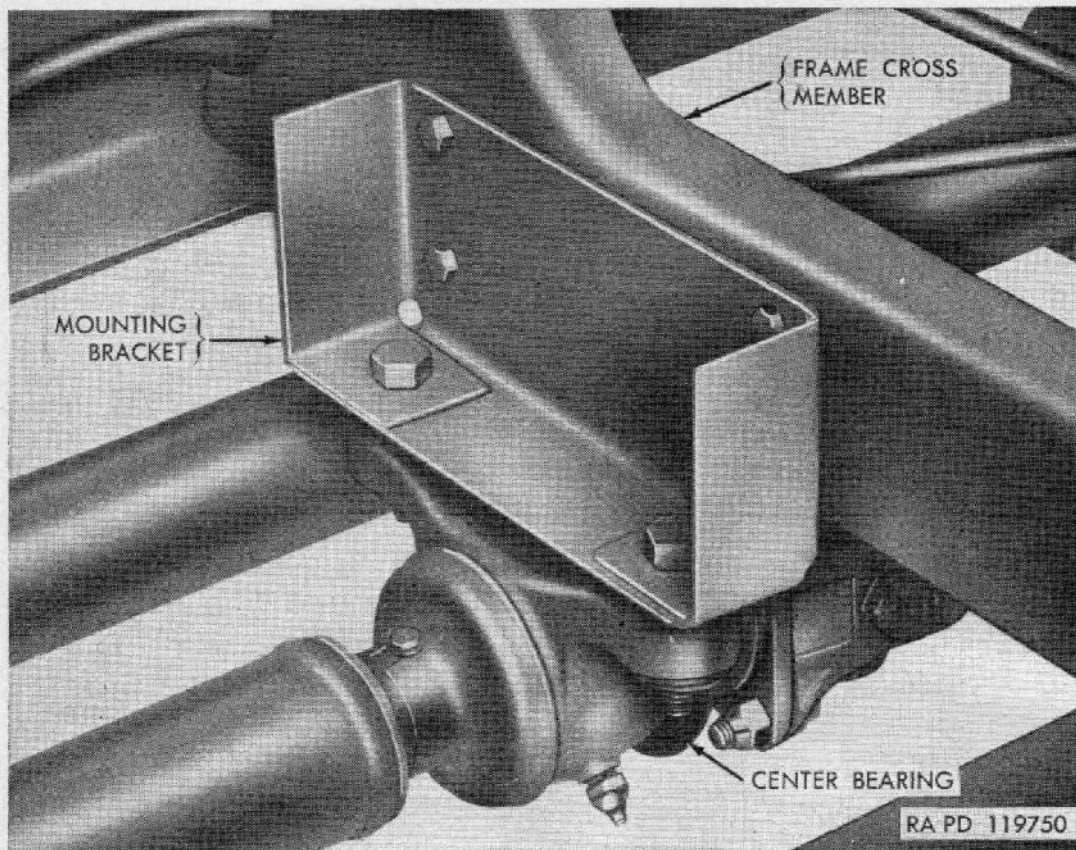

Figure 93. Center bearing—forward rear axle propeller shaft—M36.
with two universal joint assemblies and a slip joint. On model M36, the forward rear axle shaft is a three joint shaft; a center bearing near mid-point of shaft being attached to truck frame (fig. 93).
- (1) Make sure that arrow marks stamped on shaft, and sleeve yoke at slip joint are visible; if not, mark both members so they can be reassembled in same relative position.
- (2) All shafts, except the forward rear axle shaft on model M36, are removed by disconnecting the companion flanges. On model M36, remove the rear section of shaft first, disconnect companion flange from transfer, and detach center bearing by removing two bolts holding bearing to mounting bracket on cross member (fig. 93).
c. INSTALLATION. Make sure arrows or marks made before removal are in same relative positions. Position shafts with slip joints nearest input ends. Install companion flange bolts and secure with safety nuts. Raise center bearing (fig. 93) to bracket and secure with two bolts.